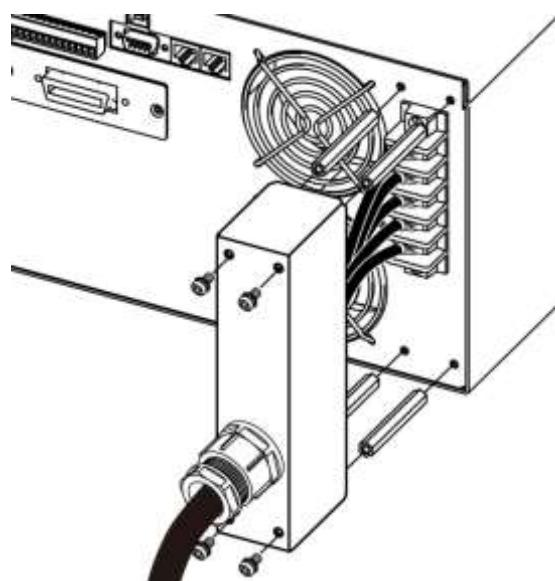

Figure 2-7 Assembling 62050P Inputer Terminal Safety Cover - 3
- c. Install the 4 copper pillars on the rear panel and secure the power terminal on the input terminal socket with Phillips screws as well as the safety cover as Figure 2-7 shows to prevent from electric shock.